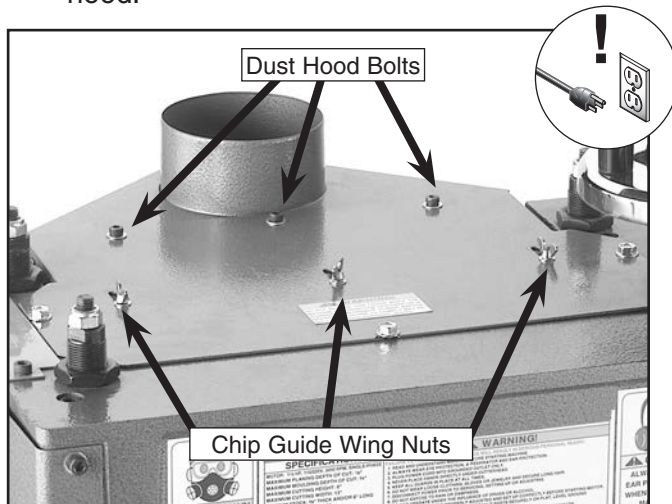

Figure 37. Removing the dust hood.
2. Remove the three bolts called out in **Figure 37** with a 12mm wrench and remove the dust hood.
7. Loosen the wing nuts that hold the chip guide called out in **Figure 37**. For planer knives, slide the chip guide to the outfeed table side of the slots. For moulding knives, slide the chip guide to the infeed table side of the slots.